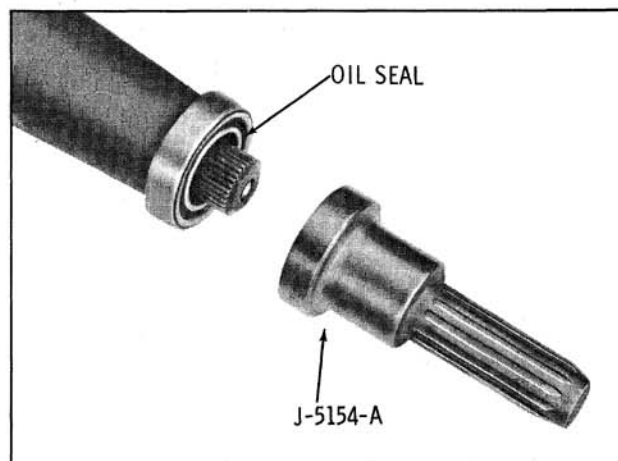

Fig. 7-32 Oil Seal Installation
3. Drive seal into the rear bearing retainer using Seal Installing Tool J-5154-A until seal is fully seated. (Fig. 7-32)